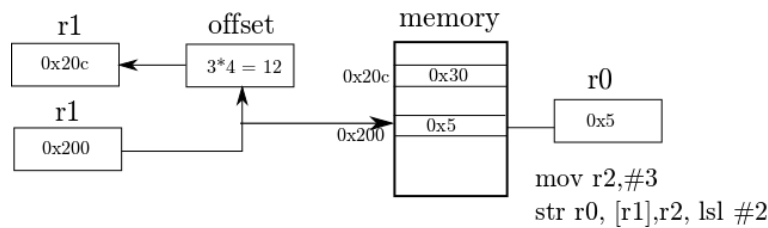

Figure 3: Difference between pre-indexing and post-indexing addressing.
- **P:** *Pre/Post indexing bit.* If the flag is set (pre-indexing) the offset is added/subtracted to the base register before transferring the data. If the flag is not set (post-indexing), the offset is added/subtracted to the base register after transferring. For the purposes of this exercise, pre-indexing will not change the value of the base register, however post-indexing will change the contents of the base register by the offset. Figure 3 has examples of the different types of addressing.